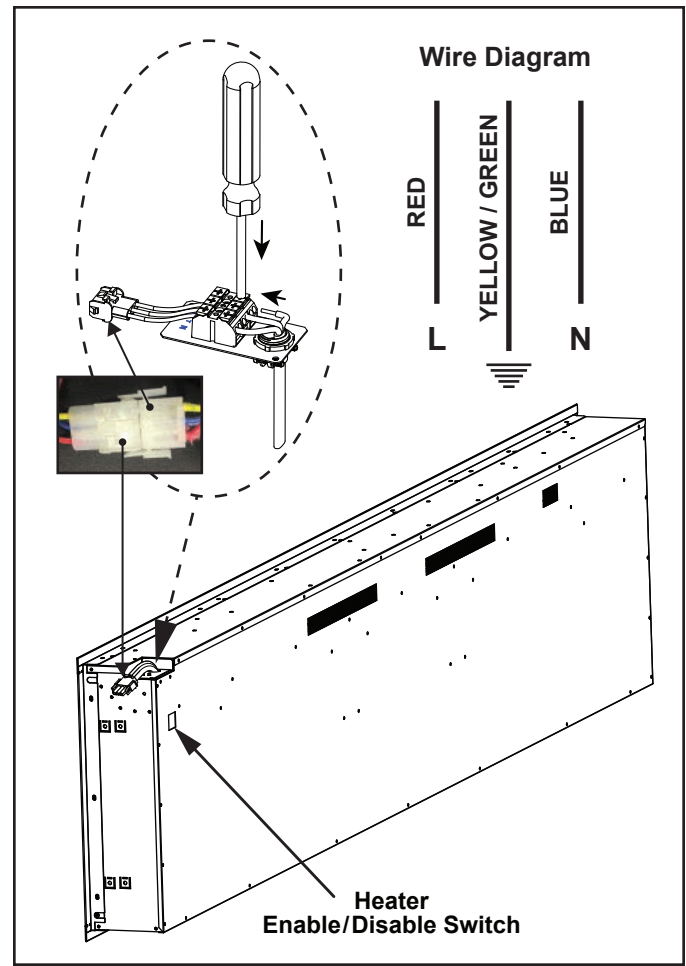

Figure 4.2 Hard-Wired Installation
3. Terminate type NM-B wire to the terminal block, ensure connections are secure, and tighten the strain relief. To load wire conductors into the junction block, depress the spring-loaded terminals on the junction block by hand or use a screwdriver. See Figure 4.2.